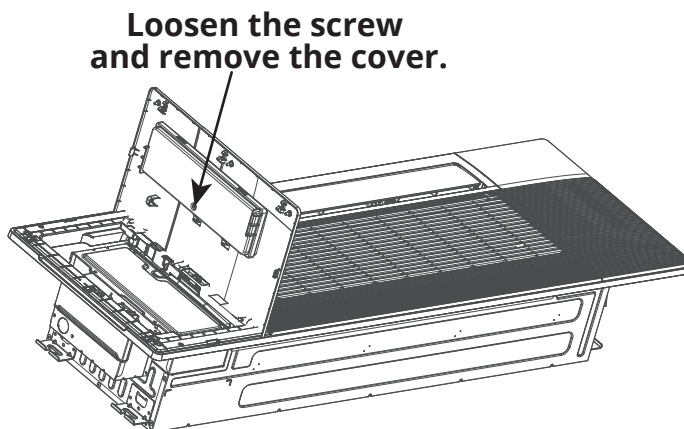

Fig. 7.8
2. Open the side panel of the cassette that contains the display panel. On the back of the panel is a cover that is held in place with a screw. Loosen the screw and remove the panel (see **Fig. 7.8** below).